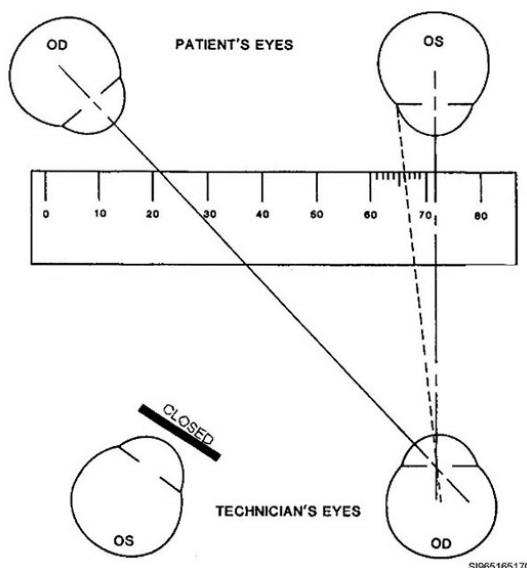

Figure 2-69. Taking the distant PD reading from the patient's left nasal limbus (using your right eye).
5. Get the *distant PD* measurement. Open (or uncover) your right eye and close or cover your left eye. Tell the patient to now look in the center of your right eye. **DO NOT MOVE THE RULER**. Look at the patient's left eye (using your right eye) to see where the patient's nasal limbus lines up on the ruler now. The reading in the example in figure 2-69 is 66 mm. This makes sense, as the reading should be about 3 mm larger than before, since the patient's left eye shifted to the left when they switched their gaze to your right eye.